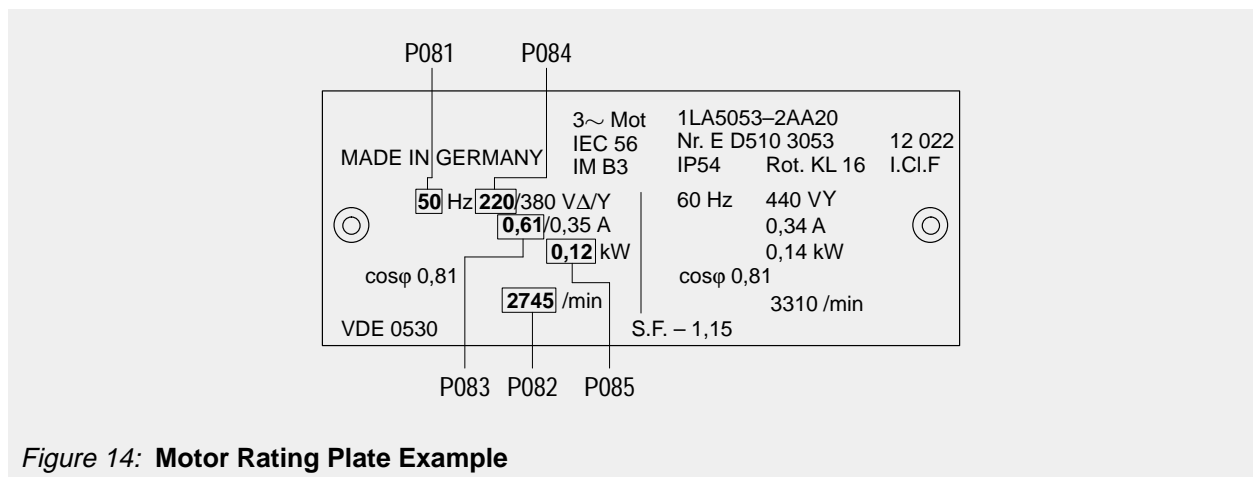

Figure 14: Motor Rating Plate Example
- (1) The inverter does not have a main power switch and is therefore live when the mains supply is connected. It waits with the output disabled for the RUN button to be pressed or for an ON signal via terminal 8 (rotate right) or terminal 9 (rotate left) – see parameters P051 – P055.
- (2) If output frequency (P001 = 0) is selected as the display, the corresponding setpoint is displayed approximately every 1.5 seconds while the inverter is stopped.
- (3) The inverter is programmed at the factory for standard applications on Siemens four-pole standard motors. When using other motors it is necessary to enter the specifications from the motor's rating plate into parameters P081 to P085 (see Figure 14). Note that access to these parameters is not possible unless P009 has been set to 002 or 003.
- (2) Set parameter P005 to the desired frequency setpoint.
- (3) Check parameters P081 to P085 and ensure that they match the requirements stated on the rating plate on the motor (see Figure 14).
- (4) Press the RUN button (I) on the inverter's front panel. The inverter will now drive the motor at the frequency set by P005.
- (3) Check that parameter P006 is set to 000 to specify digital setpoint.
- (4) Set parameter P007 to 000 to specify digital input (i.e. DIN1 (terminal 8) in this case) and disable the front panel controls.
- (5) Set parameter P005 to the desired frequency setpoint.
- (6) Set parameters P081 to P085 in accordance with the rating plate on the motor (see Figure 14).
- (7) Set the external on/off switch to ON. The inverter will now drive the motor at the frequency set by P005.
- (5) Set parameter P006 to 001 to specify analogue setpoint.
- (6) Set parameter P007 to 000 to specify digital input (i.e. DIN1 (terminal 8) in this case) and disable the front panel controls.
- (7) Set parameters P021 and P022 to specify the minimum and maximum output frequency settings.
- (8) Set parameters P081 to P085 in accordance with the rating plate on the motor (see Figure 14).
- (9) Set the external on/off switch to ON. Turn the potentiometer (or adjust the analogue control voltage) until the desired frequency is displayed on the inverter.